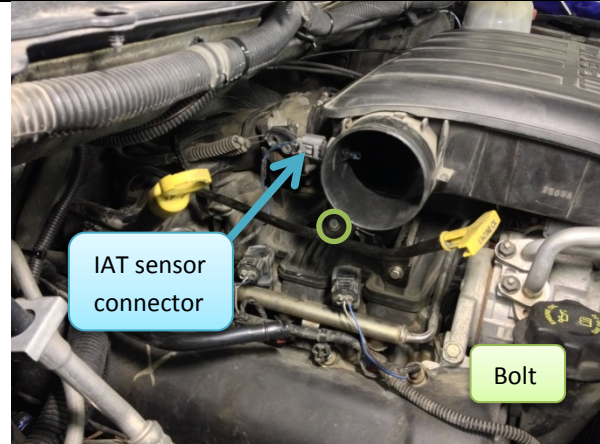

Figure 3: Passenger side upper intake.
- 4.2.1. One on passenger side (Figure 3)